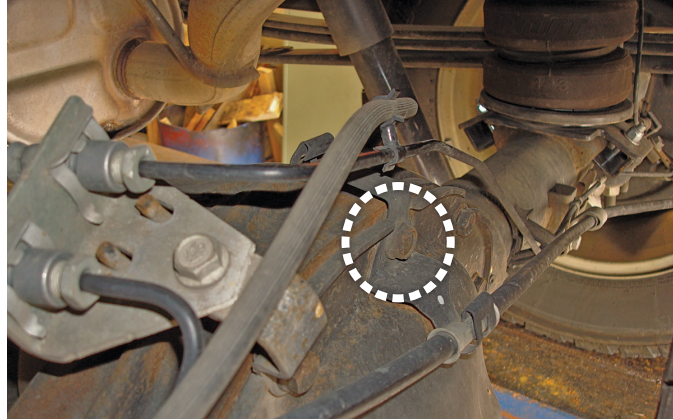

Fig. 7
9. Relocate the emergency brake cable that is held by a bracket on the top of the axle center carrier section of the rear end (fig. 7).
10. Remove the top bolt that holds the emergency brake cable bracket onto the center section of the differential cover (fig. 7).
11. Remove the bracket from the emergency brake cable and discard (fig. 7).